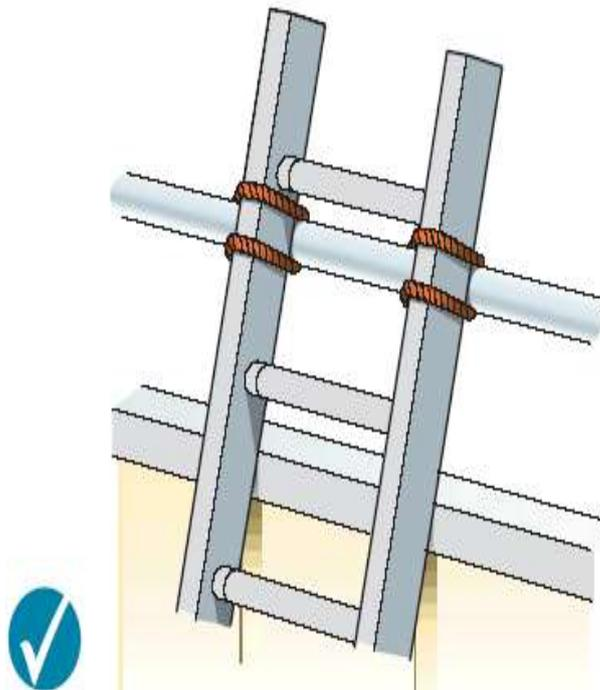

Figure 4 **Ladder tied at top stiles (correct for working on, not for access)**
- tie the ladder to a suitable point, making sure both stiles are tied, see figures 4, 5, 6 and 7;